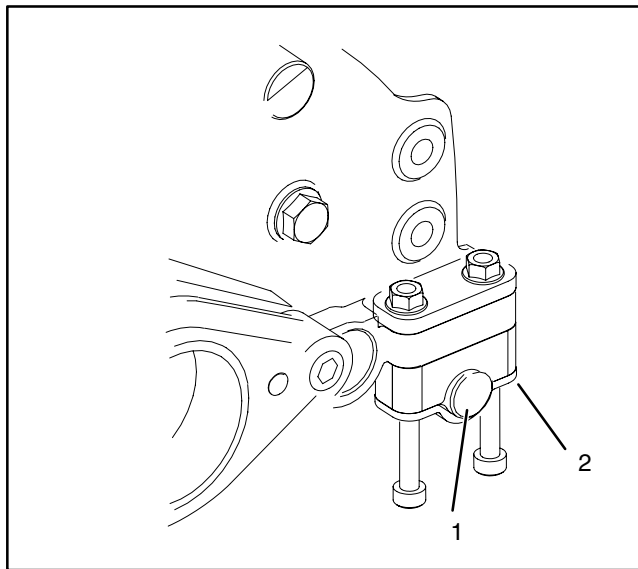

Figure 21
1. Slide the left hand side plate (6) onto the reel shaft. Make sure the reel shaft threads do not damage the grease seals in the side plate.
2. Apply a film of No. 2 general purpose grease to the reel shaft threads and install the left side reel bearing locknut (8).
3. Slide the right hand side plate (10) onto the reel shaft. Make sure the reel shaft threads do not damage the grease seals in the side plate.
4. Apply a film of No. 2 general purpose grease to the reel shaft threads and install the right side reel bearing locknut (8).
5. Mount the frame assembly (17) to the side plates with the four shoulder bolts (7). Torque the shoulder bolts to **17 to 20 ft-lbs. (23 to 27 Nm)**.
6. Secure the grass shield (22) to the side plates with two capscrews (24), washers (23), and lock nuts (25).
7. Torque the reel bearing locknuts (8) to **50 to 60 ft-lbs. (68 to 81 Nm)**.
9. Install the rear roller as follows (Fig. 21):